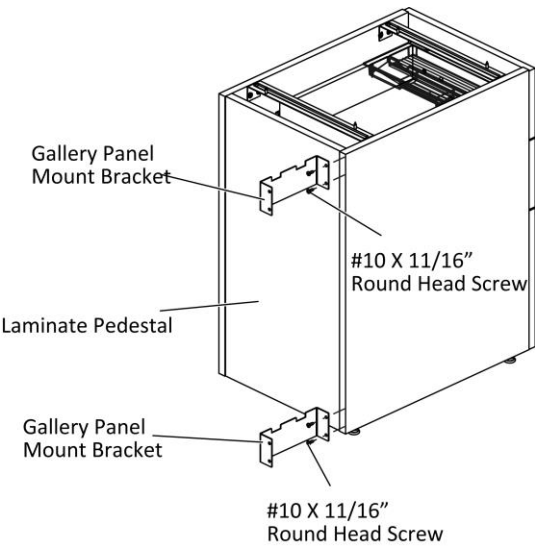

Figure 1
- 1. Position and align the gallery panel mount bracket with the outer top corner of the pedestal, flush with the top, and parallel to the vertical edge of the pedestal, (Figure 1).